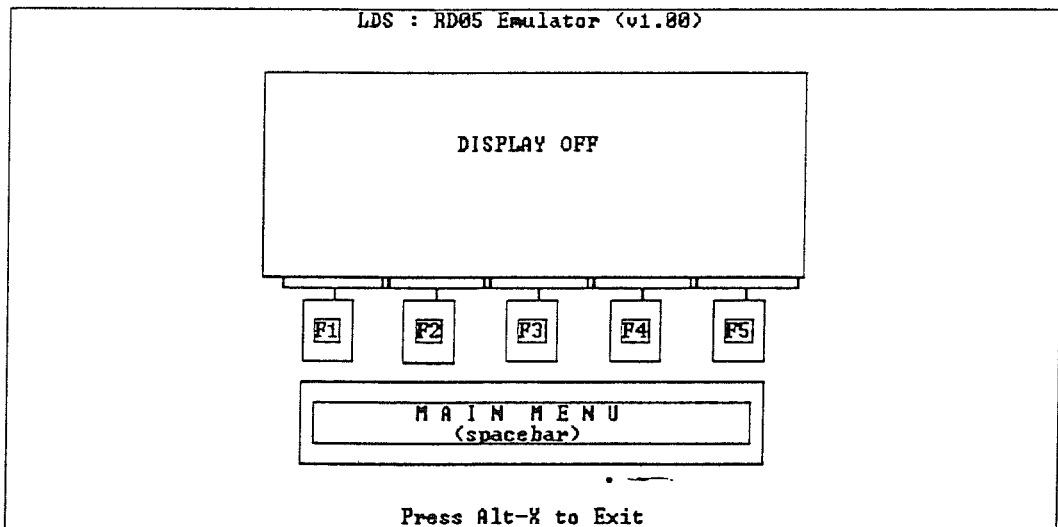

Figure 4-2
8. You will then see a screen that will resemble Figure 4-2.